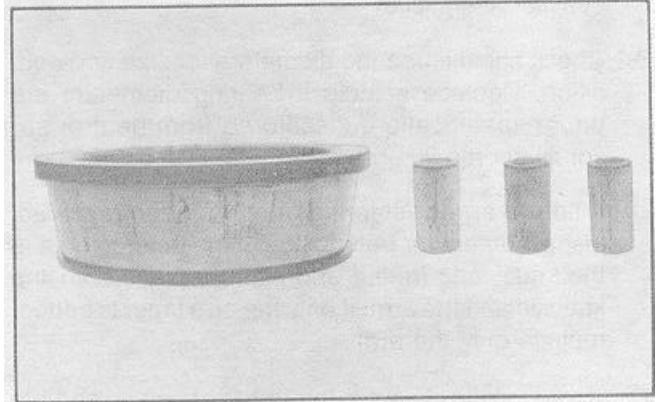

Figure 16
4. Etching or pitting on functioning surfaces (Figure 16).